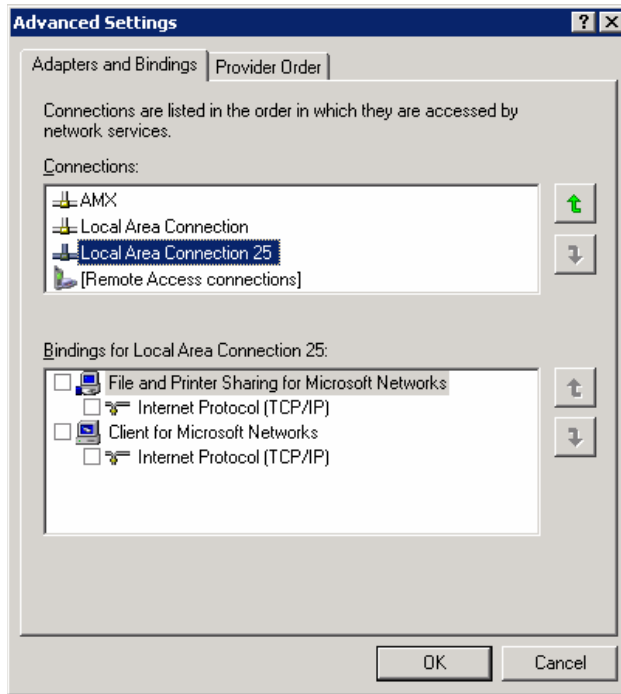

FIG. 77 Bindings for Local area list detail
- In the lower *Bindings for Local Area Connection* field, unselect ALL bindings by clicking on the checkboxes by each binding to remove the checks from each box (FIG. 77).